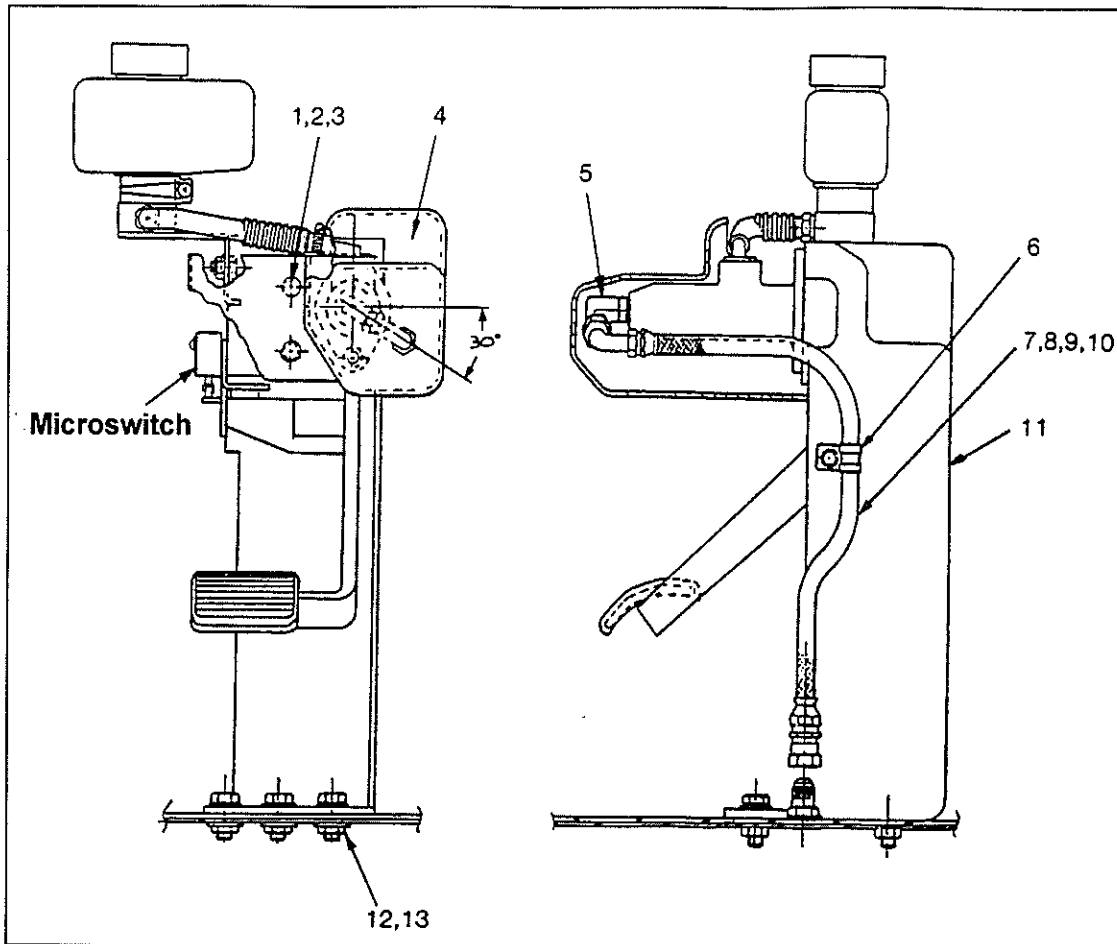

FIGURE 1: CLUTCH PEDAL ASSEMBLY INSTALLATION
Clutch Pedal Assembly installation. (Fig. 1)
10. Reinstall wiper linkage protector, sound system amplifier and public address system control box (PA) using previously removed screws.
13. Remove microswitch from former clutch pedal assembly (if applicable), then install it on new assembly referring to figure 1.
14. Remove plastic cap mounted at the end of master cylinder, screw a 90° Elbow (5), position it as illustrated in figure 1, then torque to 7 - 9 lbft (9 - 12 Nom). Connect teflon hose (6).
15. Attach teflon hose to pedal support using retaining clip (7), screw #8-32 x 1" (8), lock washer (9) and nut (10).
16. Position new pedal assembly on driver's floor then fix it using previously removed bolts, lock & flat washers and mounting new flat washers (12) and nuts (13) under coach floor since the former nuts were welded to the floor.